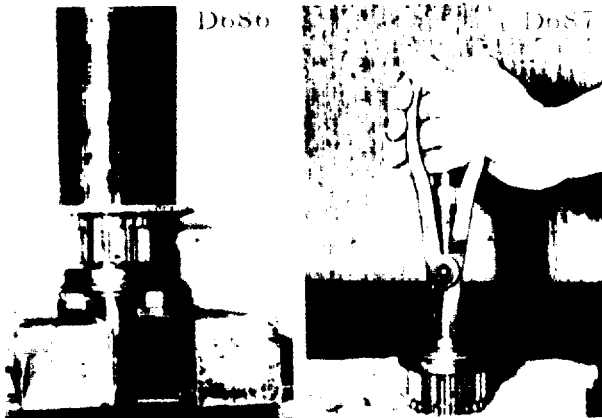

FIGURE 7-29. FIGURE 7-30.
a. Press the output bearing on the output shaft assembly and secure it with a lock ring (see figures 7-29 and 7-30).